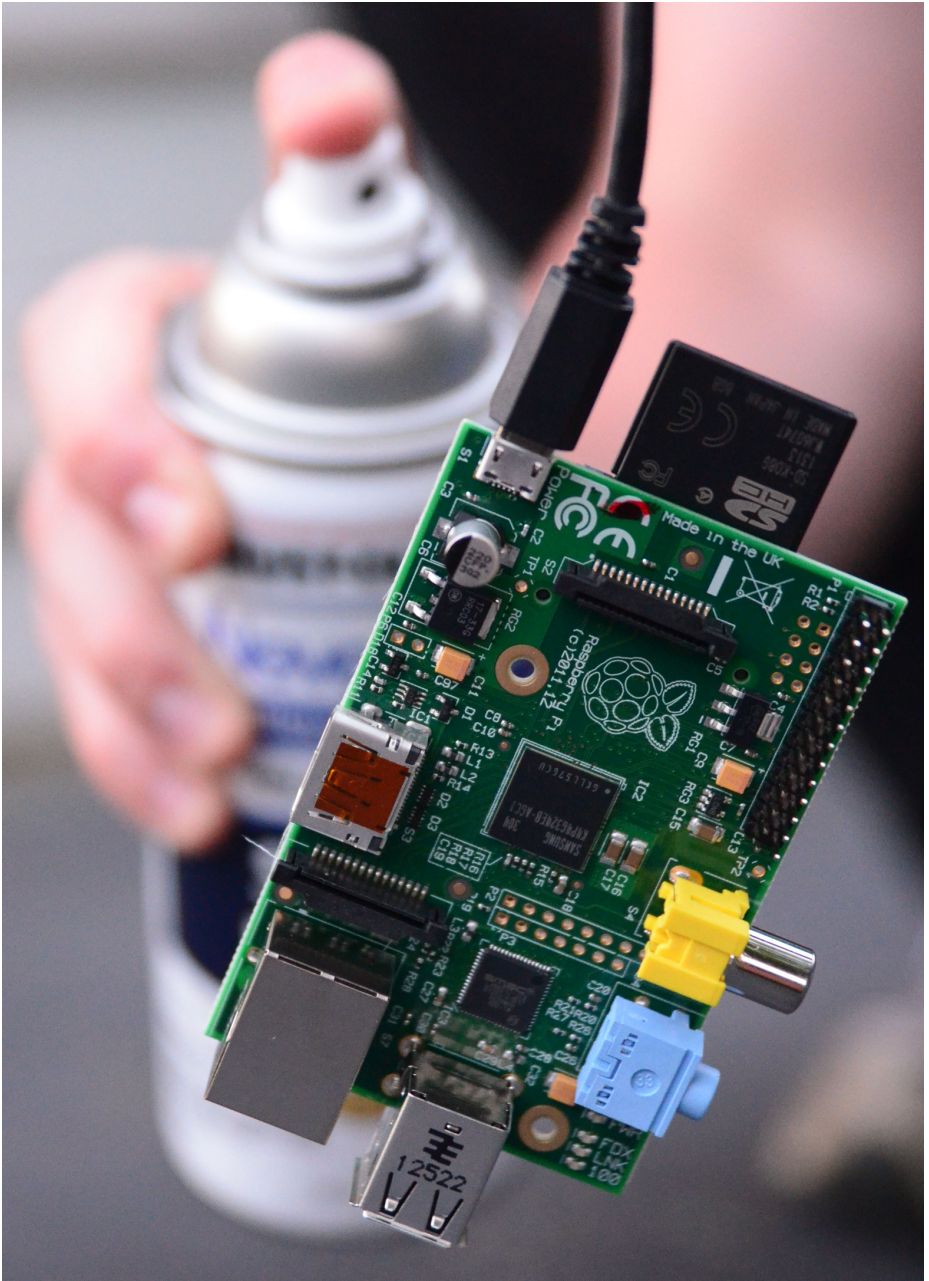

Figure 4-4.
3. Holding the can 6–12 inches away from the Raspberry Pi, apply a quick (but complete) coat of the NeverWet primer to ALL exposed surfaces, including a few inches on each cable, as shown in Figure 4-4. Spray inside every possible nook and cranny you can, including connectors you are not using and all around each connector you are using. Don't forget to spray the edges and the GPIO pins.